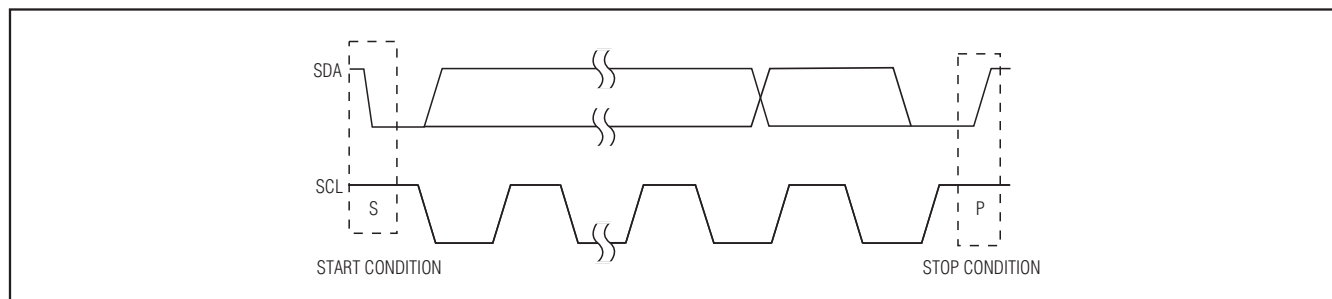
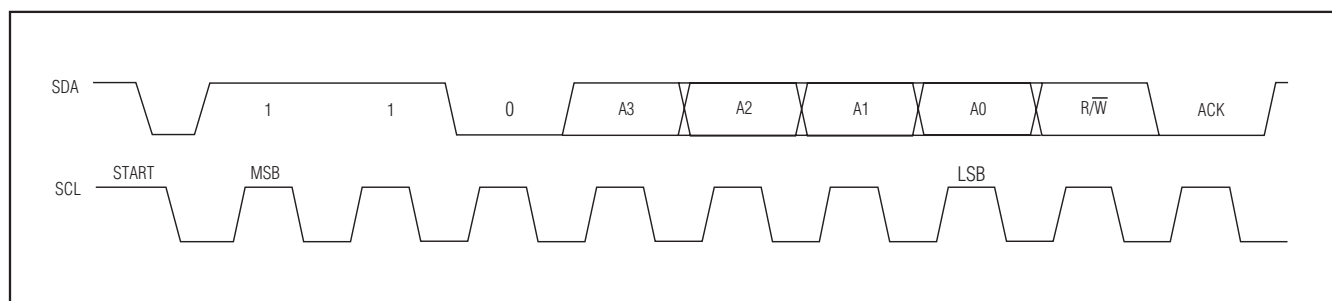

Figure 3. Start and Stop Conditions
Figure 4. Slave Address
Each transmission consists of a START condition (Figure 3) sent by a master, followed by the MAX6955 7-bit slave address plus R/W bit (Figure 4), a register address byte, 1 or more data bytes, and finally a STOP condition (Figure 3).
Both SCL and SDA remain high when the interface is not busy. A master signals the beginning of a transmission with a START (S) condition by transitioning SDA from high to low while SCL is high. When the master has finished communicating with the slave, it issues a STOP (P) condition by transitioning the SDA from low to high while SCL is high. The bus is then free for another transmission (Figure 3).
The MAX6955 has a 7-bit-long slave address (Figure 4). The eighth bit following the 7-bit slave address is the R/W bit. It is low for a write command, high for a read command.